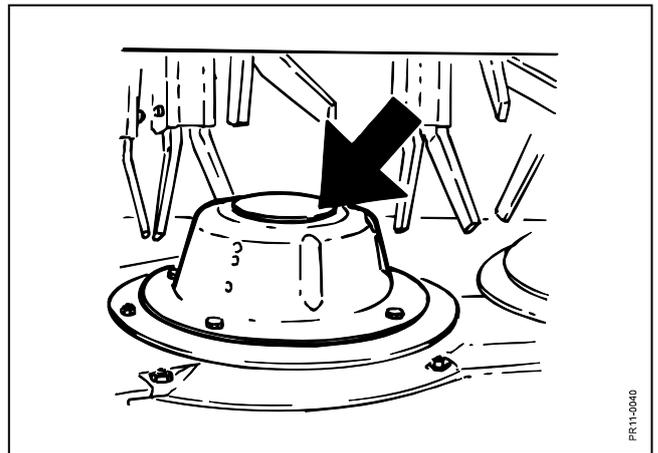

Fig. 5-7
- Fig. 5-7** Low flow caps should be straightened or replaced by new ones if they are deformed. They should be checked for dust and earth 2 or 3 times per season.